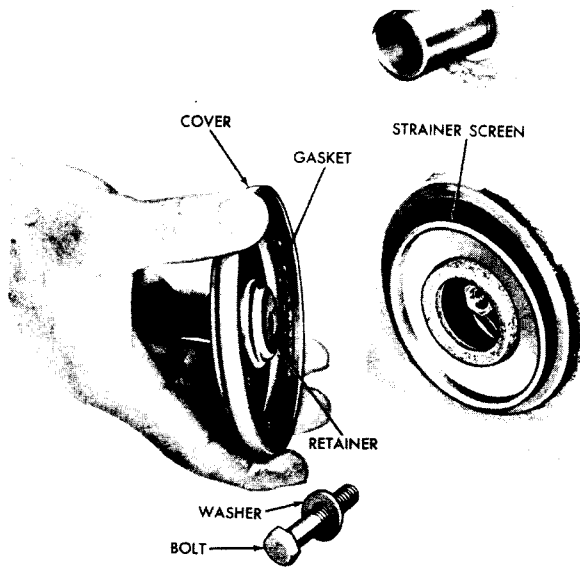

Fig. VII-5. Installing (or removing) oil strainer components in welded housing ^{S2439}
(15) Position the transfer housing upright and install the oil strainer components (fig. VII-5).
Note: Fig. VII-5 illustrates the weld-fabricated housing. For installation of strainer components into the cast housing, refer to (29), below, and to 29 through 32 (B, foldout 10).